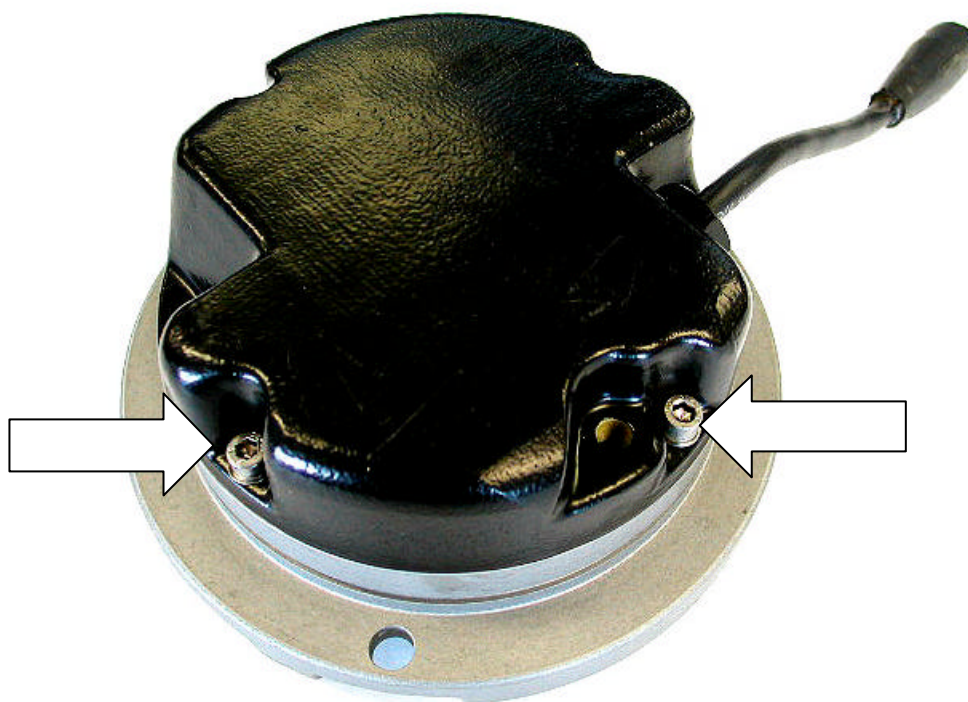

Fig. 3. ZA180 i Series fitting inverted on work surface.
- Place the light fitting on a clean, flat, work surface with its bottom cover uppermost. (See **Fig. 3**).